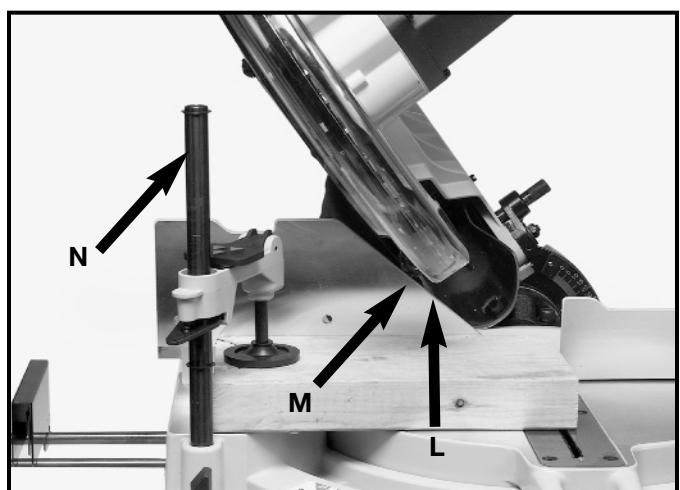

Fig. 7F
WARNING MAKE SURE THAT FENCE (M) Fig. 7F AND WORK CLAMP (N) Fig. 7F ARE CLEAR OF GUARD AND BLADE (L) Fig. 7F BEFORE OPERATING SAW.